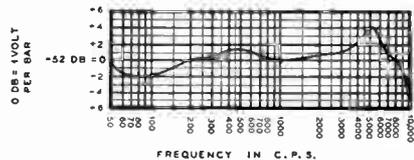

FIG. 2
- High output level and exceptionally smooth frequency response. Removable cable. Swivel mounting to accommodate varying positions of the microphone. See Fig. 2 for frequency response.